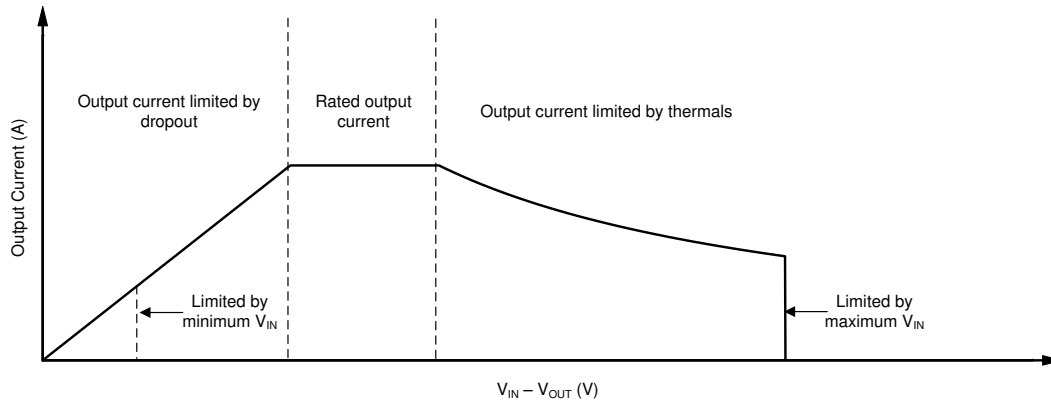

图 8-3. Region Description of Continuous Operation Regime
The operational area of an LDO is limited by the dropout voltage, output current, junction temperature, and input voltage. The recommended area for continuous operation for a linear regulator is given in 图 8-3 and can be separated into the following parts:
- The shape of the slope is depicted in the third region of Figure 8-3. The slope is nonlinear because the maximum-rated junction temperature of the LDO is controlled by the power dissipation across the LDO. Thus, when  $V_{IN} - V_{OUT}$  increases the output current must decrease.
图 8-3 shows the recommended area of operation for this device on a JEDEC-standard high-K board with a  $R_{\theta JA}$ , as given in the *Thermal Information* table.